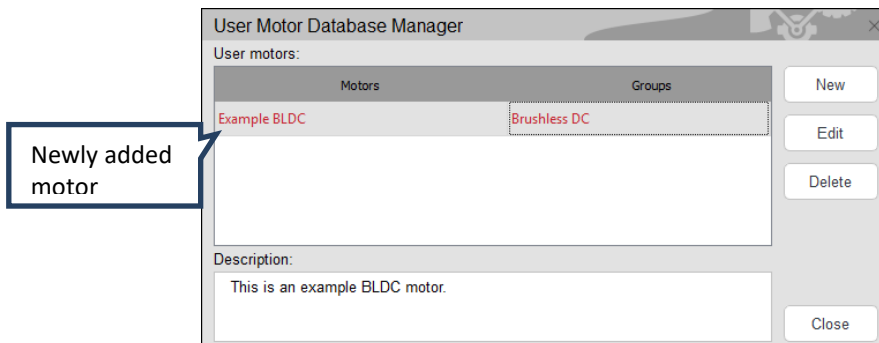

Figure 74: New Motor Added to Database
- The motor should now be displayed in the *User Motor Database Manager* window as shown in Figure 74. The selected motor appears in red text.